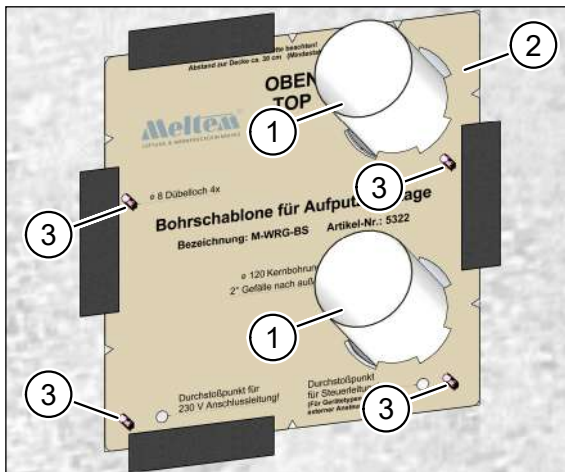

Fig. 22: Ventilation pipes on the inside of the wall
- ▶ Position the drilling template (item 2 in Fig. 22) on the internal wall.
- ▶ Fix the drilling template in place with the four S8 dowels (item 3 in Fig. 22).
- ▶ Push the two ventilation pipes (item 1 in Fig. 22) through the core drill holes so that they protrude on both the inside and the outside of the wall. The ventilation pipes are fixed in place on the inside of the wall by the drilling template for the ventilation unit (item 2 in Fig. 22).